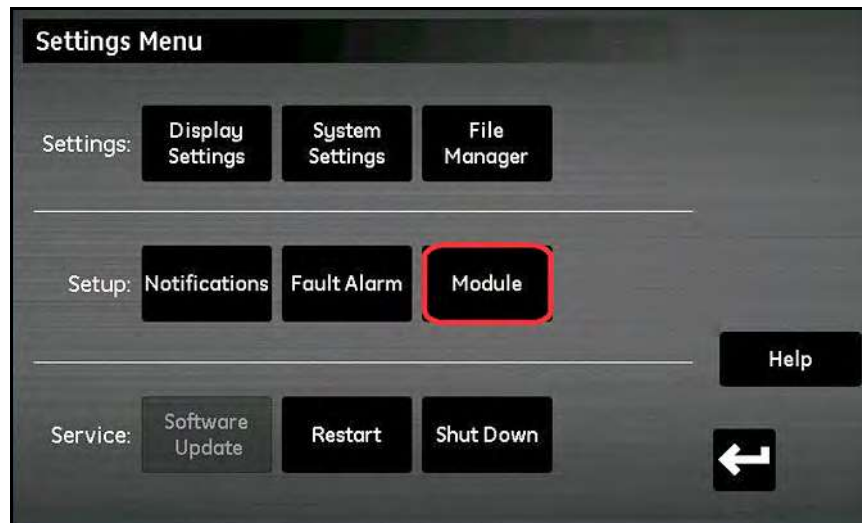

Figure 83: Module Update
4. In the **Setup** section, tap the **Module** button (see *Figure 83* below).